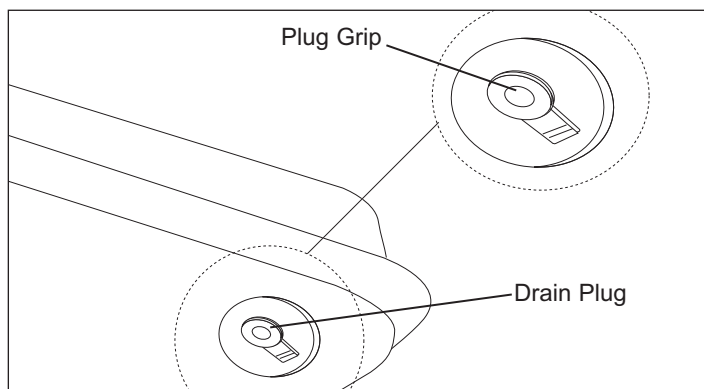

Figure 11: Drain Plug Removal
2. To remove the Drain Plug (125/175/215), pull the Plug Grip downward and remove seal head from drain hole in tank (See Figure 11).